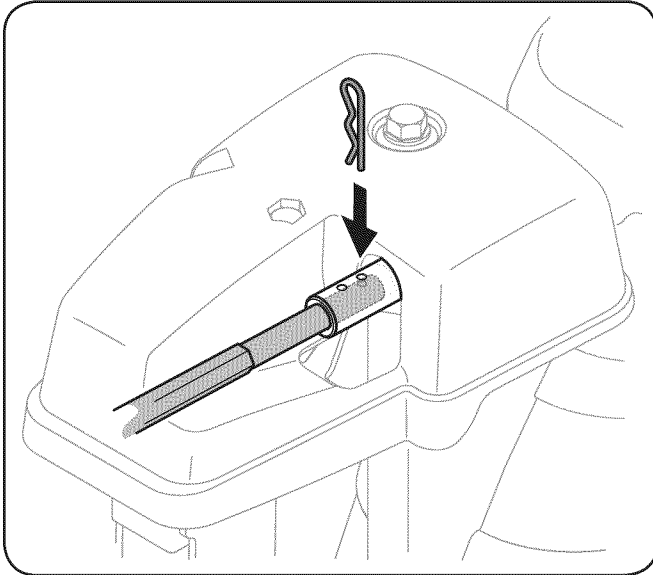

Figure 3-8
- Push the hex rod toward the control panel until the hole in the hex rod lines up with the hole in the chute control input closest to the chute control head and insert the cotter pin. See Fig. 3-8.